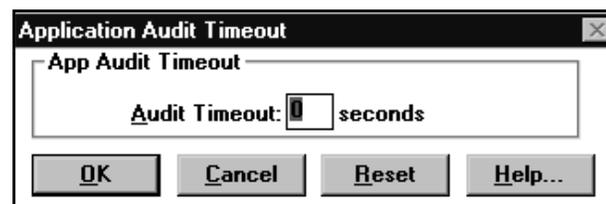

FIGURE 92. Example of Application Audit Timeout dialog box
1. To set the number of seconds the IWS Billing application waits for an audit response from the calling card database (CCDB), select App Audit Timeout in the configuration window. (See Figure 92.)